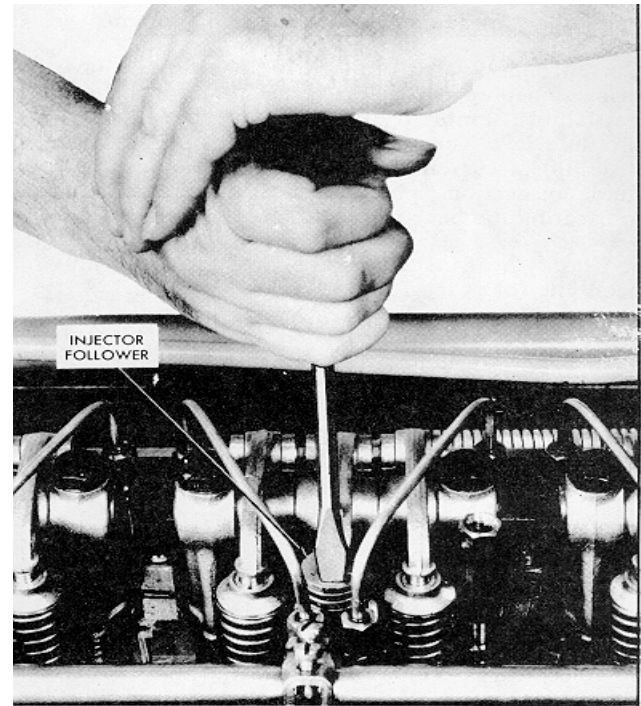

Fig. 1 - Locating a Misfiring Cylinder
4. Start the engine. Then hold an injector follower down with a screw driver (Fig 1) to prevent operation of the injector. If the cylinder has been misfiring, there will be no noticeable difference in the sound and operation of the engine. If the cylinder has been firing properly, there will be a noticeable difference in the sound and operation when the injector follower is held down. This is similar to short-circuiting a spark plug in a gasoline engine.